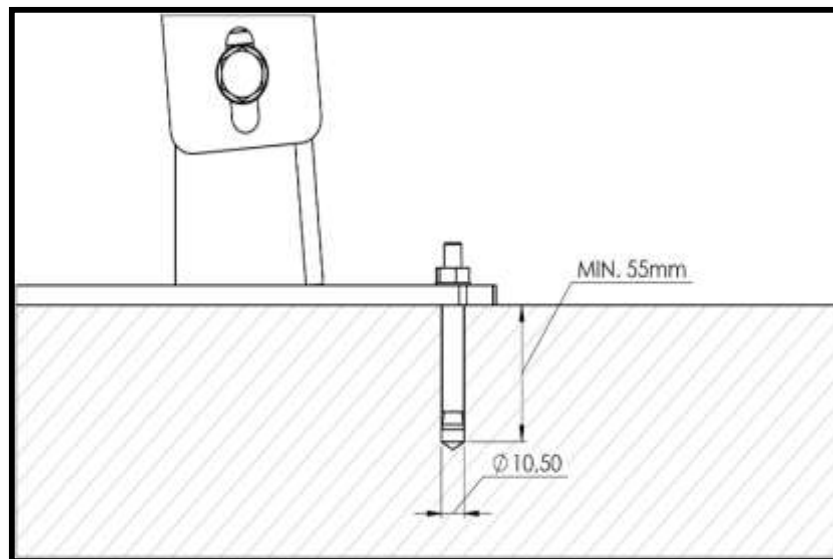

Figure 2.3 Anchor hole size
- 3- Open the holes from the points where the holes in the feet are located. (figure 2.3)